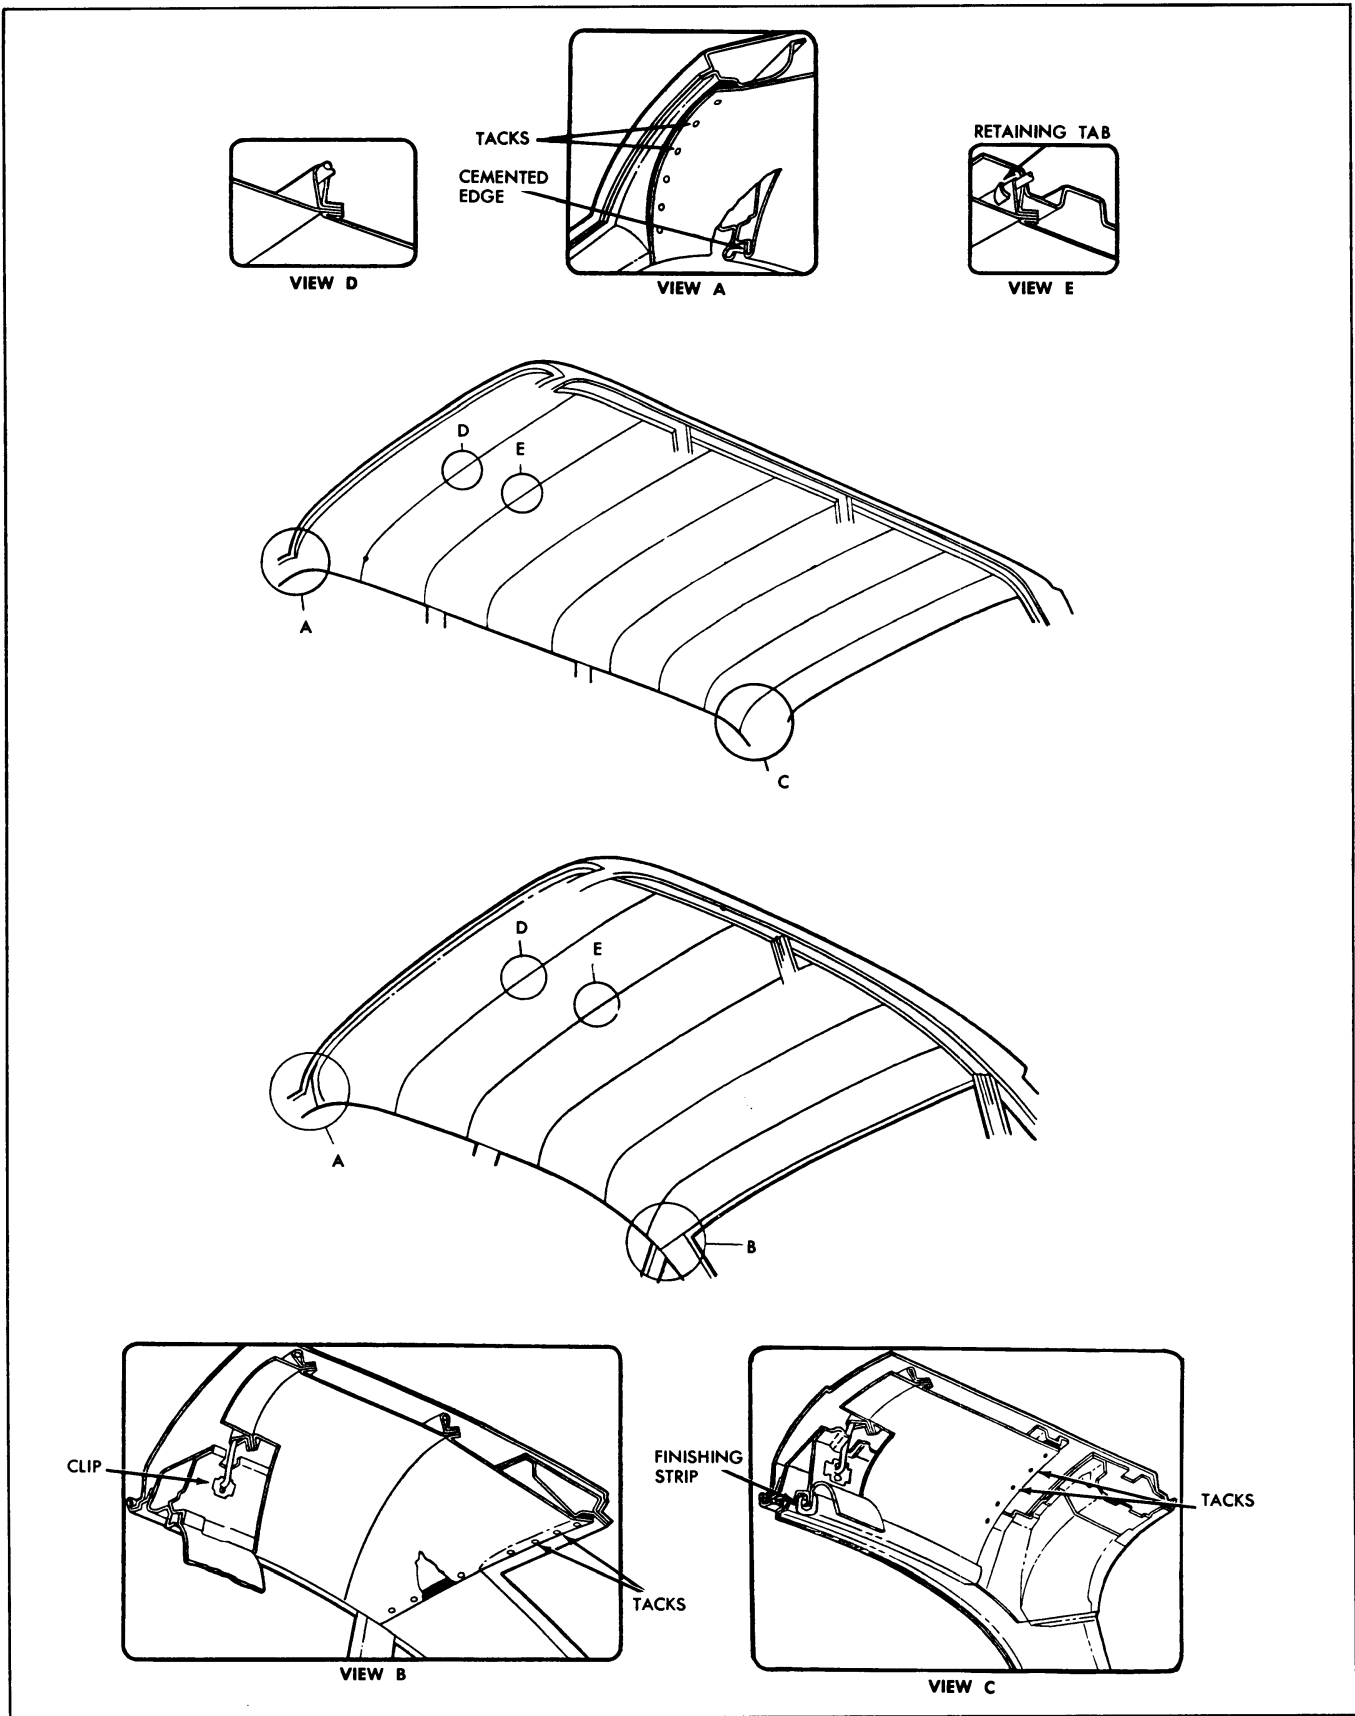

Fig. 17-1 Headlining Installation
3. Carefully detach cemented edge of headlining along each side roof inner rail including rear quarter windows on station wagon styles (see View "A", Fig. 17-1).
4. Carefully remove tacks or staples securing headlining at windshield opening as shown in View "A" and along back window or back body opening as shown in views "B" and "C", Fig. 17-1, then carefully detach cemented edges of headlining from openings.
6. At roof bow, bend down metal tabs shown in view "E", Fig. 17-1, and remove listing support wire from roof bow.
4. Install headlining listing support wire over metal tabs on roof bow. Bend up metal tabs so that support wire is securely fastened to roof bow. (View "E", Fig. 17-1).